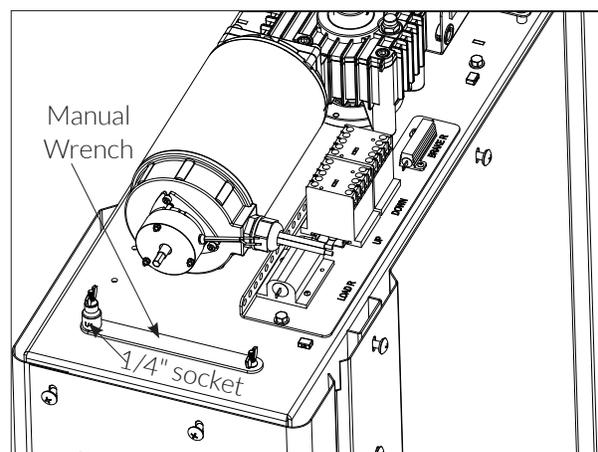

Figure 3-4
4. Remove the two wingnuts holding down the manual lowering tools ($\frac{1}{4}$ " wrench and $\frac{1}{4}$ " x $\frac{3}{8}$ " drive socket). *See Figure 3-4.*